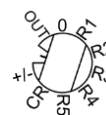

Figure 9: Rotary Switch Position for Display Mode Selection
- Place the rotary switch into the blank position, see Figure 9.